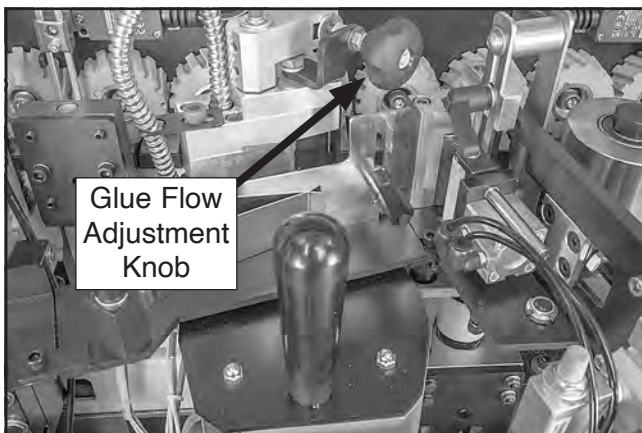

Figure 51. Location of glue flow adjustment knob.
3. Rotate glue flow adjustment knob *counter-clockwise* to increase glue flow; rotate *clockwise* to decrease glue flow (see **Figure 51**).